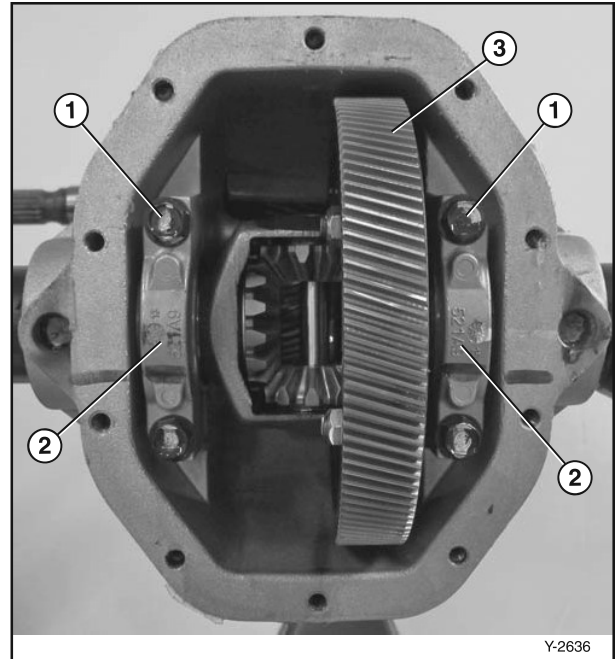

Figure 6-61
10. Install the differential assembly (**Figure 6-61, (3)**).
11. Install the bearing caps (**Figure 6-61, (2)**) and the bolts (**Figure 6-61, (1)**). Tighten the bolts to specification.